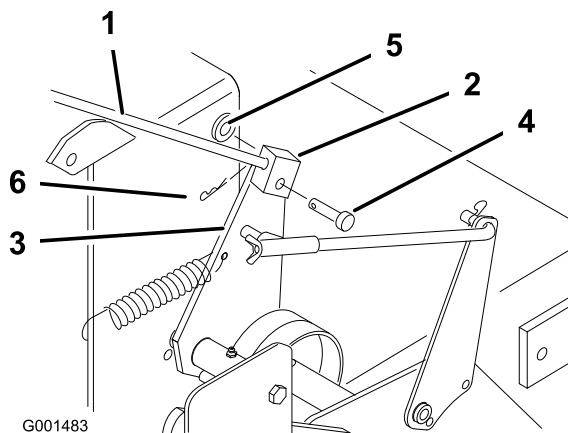

Figure 19
1. Remove hairpin cotter, washer and clevis pin securing control rod fitting to idler bracket (Figure 19).